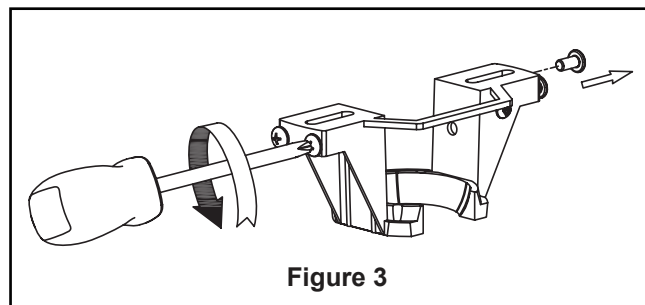

Figure 3
Your new ceiling fan will require a grounded electrical supply line of 120 volts AC, 60 HZ, 15 Amp Circuit. Electrical code requires use of a fan-rated outlet box to support the extra weight and motion associated with a ceiling fan. A fan-rated box will be labeled as such and typically supports up to a 70lb ceiling fan. Fan-Rated Outlet Boxes vary in ratings and design. Ensure the ratings of your ceiling fan outlet box meet the requirements for the ceiling fan being installed. Figure 1, Figure 2 and Figure 3 depicts different structural configurations that may be used for mounting the outlet box.
Deep box with brace (Figure 3)
- ☐ 3. Remove the hairpin clip and clevis pin from the bottom of downrod. Retain the pin and clip for reinstallation in step 5. (Figure 3)
3. Route your fan wires and safety cable through the canopy trim ring and ceiling canopy. (Figure 3)
- ☐ 1. Completely remove one screw from either side of the hanger bracket--be sure it is the screw to your right when facing it--and keep for reinstallation on page 12 or 13 (**How to Install Your Canopy Housing**). Loosen the other two screws that were not removed. (Figure 3)
3. After connections have been made, turn leads upward and carefully push leads into the outlet box, with the white and green leads to one side of the box and the black leads toward the other side. (Figure 3)
3. Push the canopy trim ring up to conceal the screws, such that the mounting tabs seat into the dimpled grooves in the ceiling canopy midway between the screws. (Figure 3)
- ☐ 3. Push the canopy trim ring up to conceal the screws, such that the mounting tabs seat into the dimpled grooves in the ceiling canopy midway between the screws. (Figure 3)
- ☐ 3. Assemble the switch cup assembly onto the housing adapter with previously removed screws. (Figure 3)
- ☐ 3. Check the operation of the fan by gently pulling on the fan fob. (Figure 3)